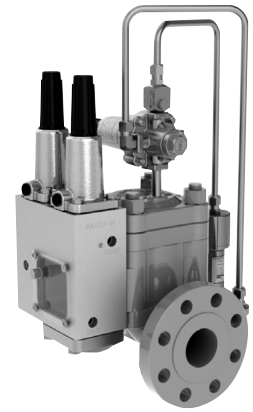

Figure 2 – 2” Flowgrid regulator with an integrated Shutoff Valve and a Series 50D/51D dual function controller providing under and over pressure protection.
- 2) The Series 50D/51D dual function controller (Figure 2) provides over and under pressure protection with both functions connection to a common sense port.